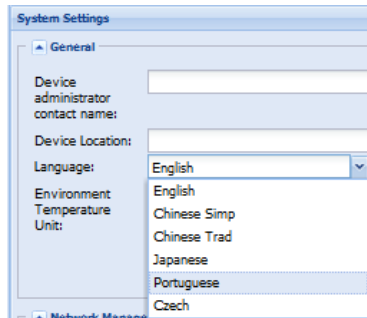

Figure 75. Change Language on System Settings Page
4. To change the language, select a language from the drop down list (see Figure 75).